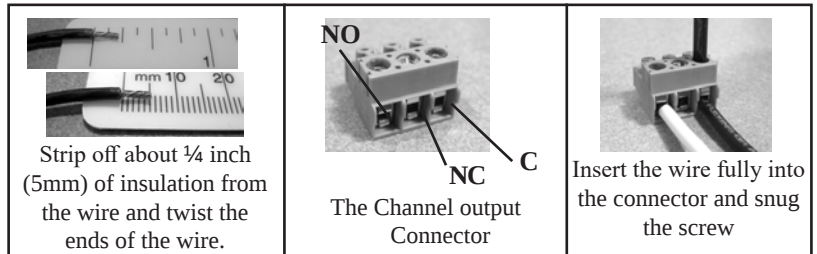

Figure 4 - Wiring the Channel Output Connector
- Strip the wire as shown in Figure 4.